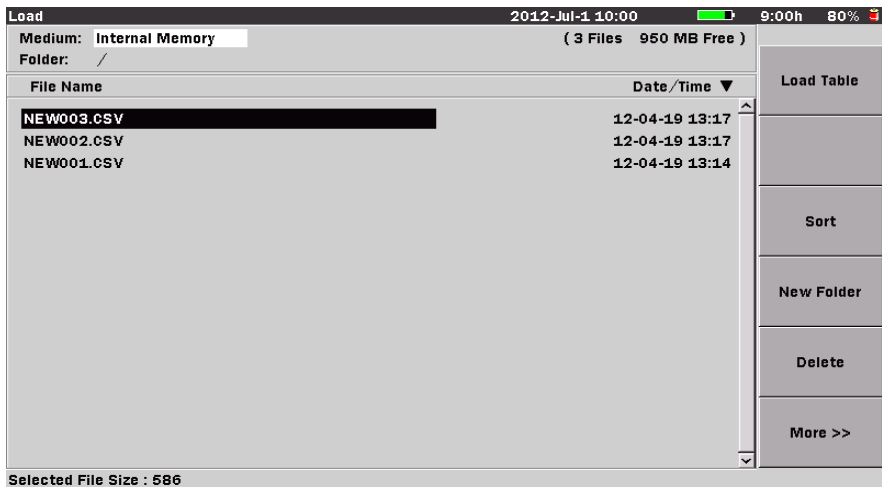

Figure 8-14: Load screen – Loss Test Set mode
Use either the Save screen (see Figure 8-13 on page 8-34) or the Load screen (see Figure 8-14 on page 8-39) to delete any data files stored in the internal memory or on a USB memory stick. You can delete a single file, multiple files or all of the files in the current directory.
1. Press the **Save key**, or the **File key**, if not already displaying either the Save screen (see Figure 8-13 on page 8-34) or the Load screen (see Figure 8-14 on page 8-39).
Use either the Save screen (see Figure 8-13 on page 8-34) or the Load screen (see Figure 8-14 on page 8-39) to copy data files stored in the internal memory or on a USB memory stick. You can copy a single file, multiple files or all of the files in the current directory.
1. Press the **File key**. The Load screen appears (see Figure 8-14, below).